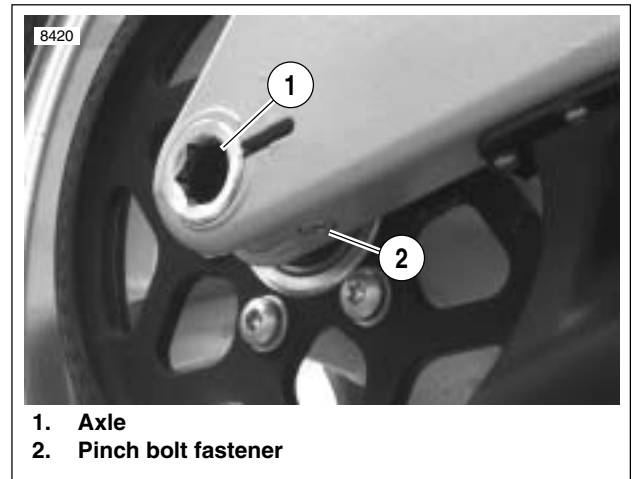

**Figure 2-96. Anti-Seize Lubricant Location**
14. See Figure 2-96. Coat the axle with ANTI-SEIZE LUBRICANT.